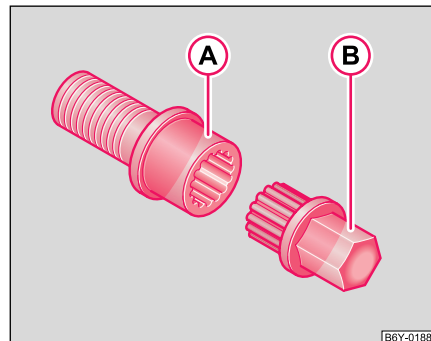

Fig. 146 Safety wheel bolt with adapter
- Push the adapter **(B)** with its toothed side into the inner toothings of the safety wheel bolt **(A)** right down in such a way that only the outer hexagon is jutting out ⇒ fig. 146.